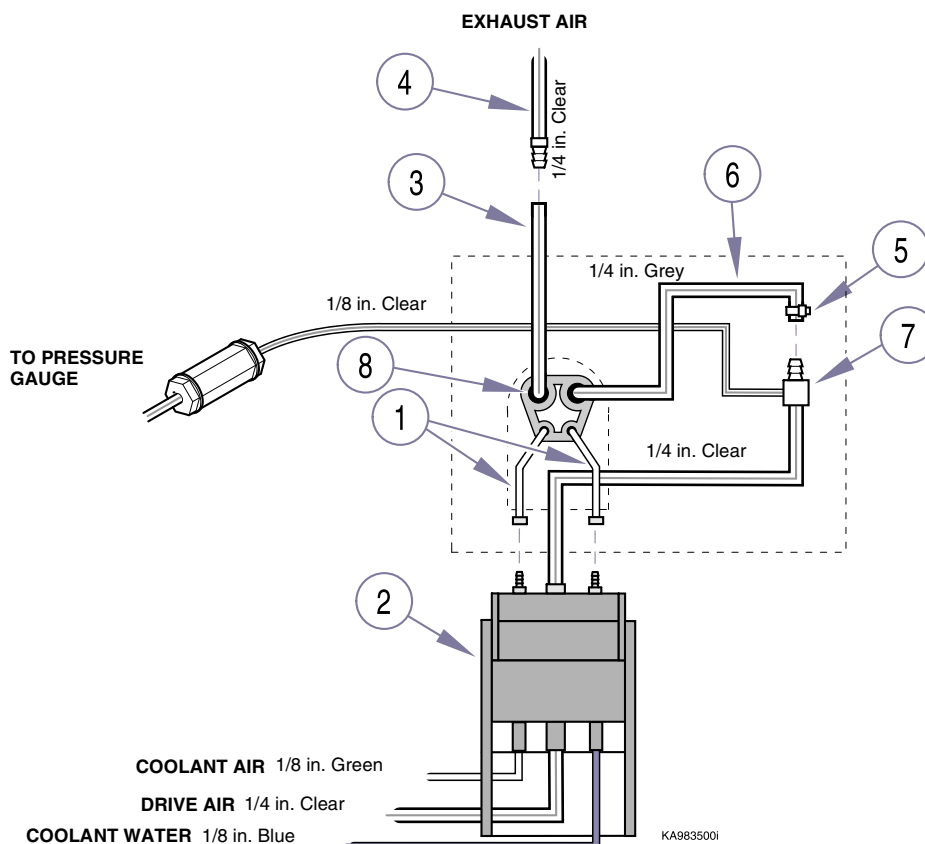

Figure 1. Standard Handpiece Tubing Removal
- (1) Press release button and lift cover of delivery unit. Using lid support rod, prop cover in fully open position.
- (2) Disconnect two pieces of 1/8 in. handpiece tubing (1, Figure 1) from kink valve assembly (2).
- (3) Disconnect 1/4 in. grey handpiece tubing (3) from 1/4 in. clear tubing (4).
- (4) Cut cable tie (5); then disconnect 1/4 in. grey handpiece tubing (6) from connector fitting (7).
- (5) Remove handpiece tubing (8) from delivery unit.